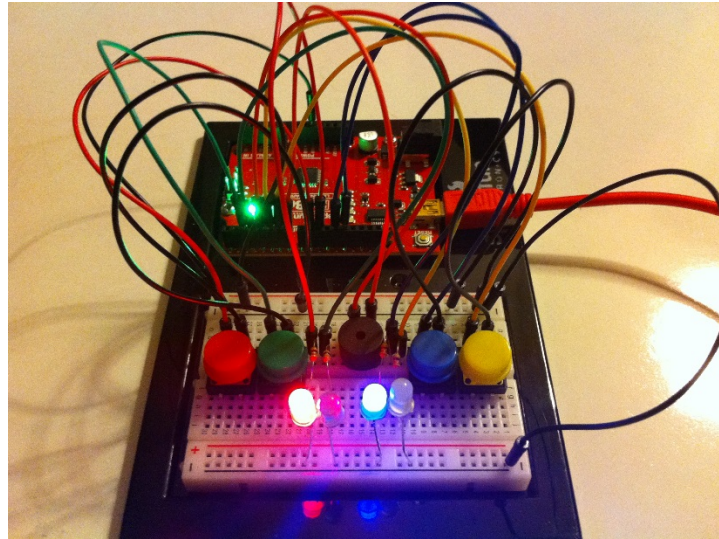

Figure 1: Original Simon Says Circuit
1. Build Circuit #16 from the SparkFun Inventor's Kit Guide (see Figure 1).